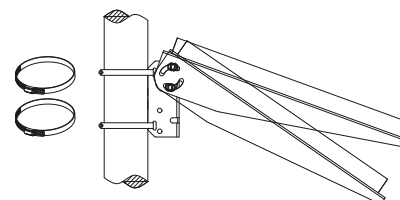

figure 2
**Step4.** For pole mounting, use hose clamps( not included) to fix the PV module and mount assembly securely to the pole. **See figure 2.** The U-Bolts, Steel Clamps and Molly Bolts are not included in the kit